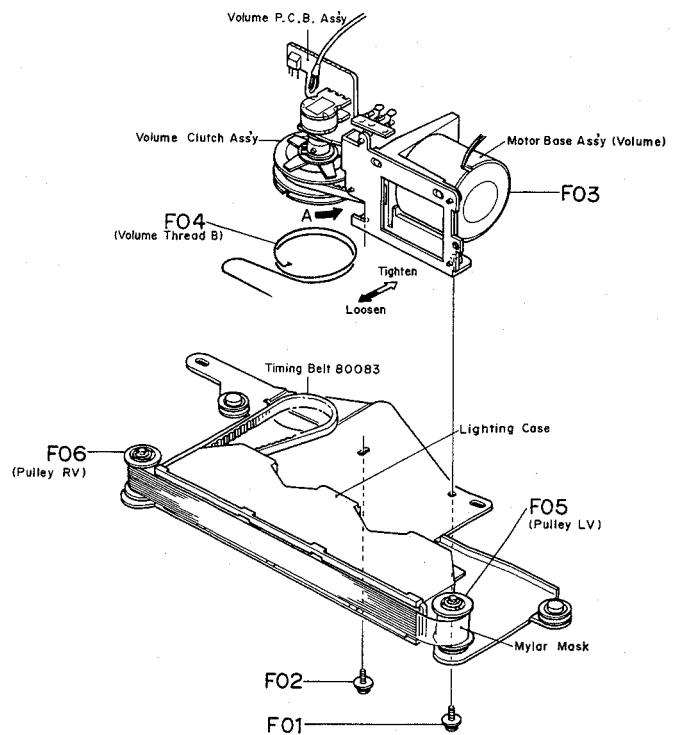
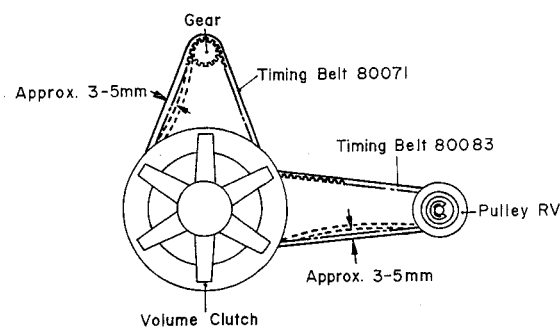

Fig. 5.2.3
Fig. 5.2.9
- (1) Remove the Front Panel Ass'y, referring to item 3.3, removal of Front Panel Ass'y.
- (2) Remove the Volume Control Ass'y, referring to item 3.10.
- (3) Remove F01 and F02 shown in Fig. 5.2.3, and detach the Motor Base Ass'y (Volume) F03.
- (4) Referring to Fig. 5.2.3, turn the Volume Clutch manually in direction A until it stops.
- (8) Refer to Figs. 5.2.3 and 5.2.9. Loop the Timing Belt 80083 around the Volume Clutch of the Motor Base Ass'y (Volume), and assemble it with Volume Control Base Ass'y by screws F01 and F02.
Adjust the tension of the Timing Belt 80083 by loosening F01 and F02 of Fig. 5.2.3. And make sure that the tension is such that it can be depressed by 3 – 5 mm when it is lightly pushed with the finger as shown in Fig. 5.2.9.
- (9) Refer to Figs. 5.2.9 and 5.2.10. Adjust the tension of the Timing Belt 80071 between the Volume Clutch and the Motor Gear, so that it is depressed by 3 – 5 mm when it is lightly pushed with the finger as shown in Fig. 5.2.9.